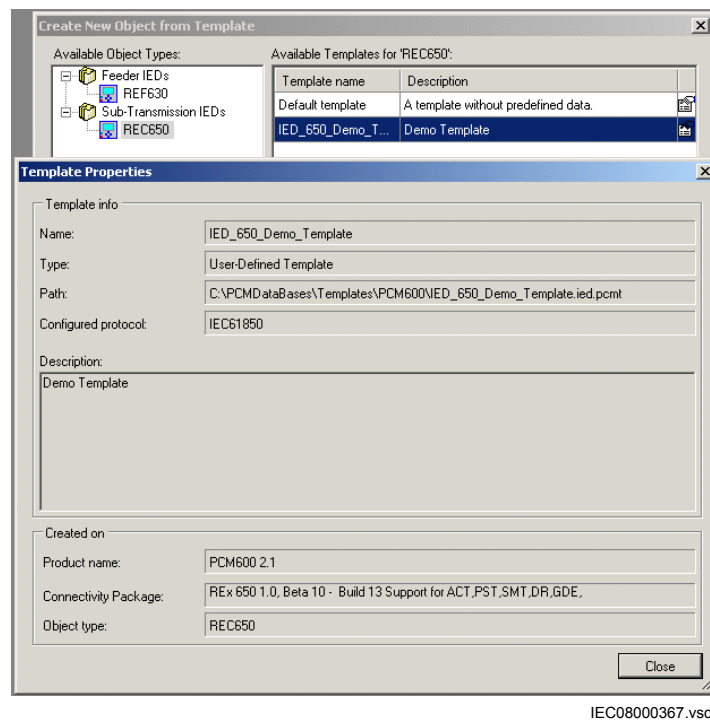

Figure 28: PCM600: IED Template Properties
4. Click the icon in the right column of the list of available templates to open the *Template Properties*. Verify the template information, see Figure 28 and click *Close* to close the window.